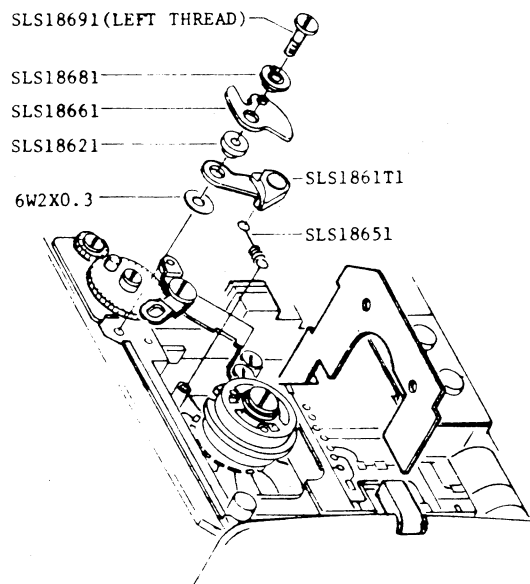

Fig. 42
- 1) Install relative parts for brakes as shown in Fig. 42.